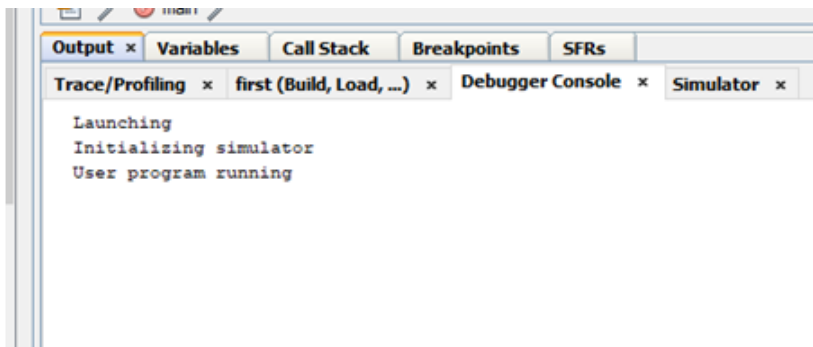

Fig 4.20c Debugger Console
17. To debug, click debug icon or “Debug” menu & select “Debug Main Project” as shown in Fig 4.20. The debugger console will run as shown in Fig 4.20c.